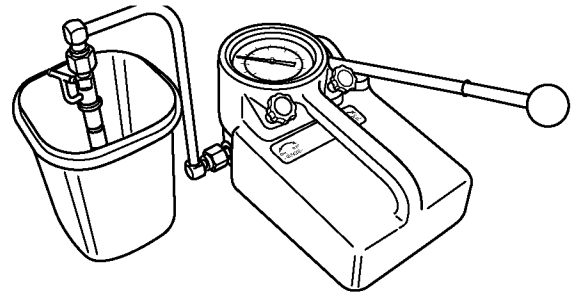

Figure 7-31
- 3. Using the correct adapter, connect a fuel injector to a nozzle tester. Aim the fuel injector into a suitable container to catch the fuel spray (Figure 7-31).